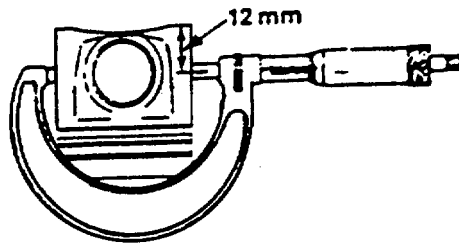

FIGURE 4-36. Measuring Piston Skirt Diameter.
- b. Measure each piston skirt diameter as illustrated in FIGURE 4-36.